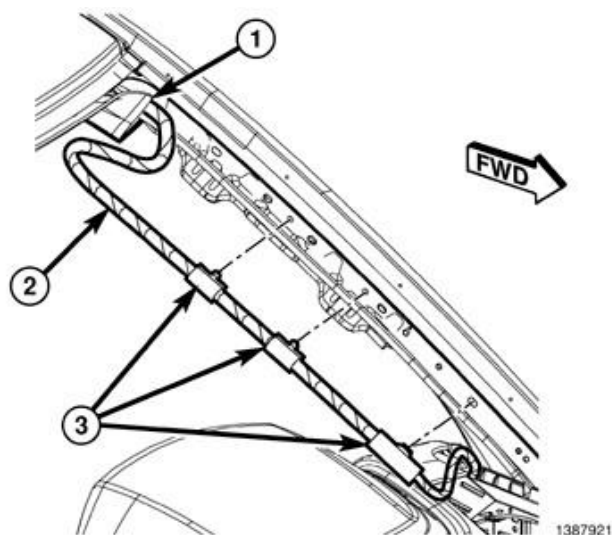

Figure 33 – Headliner Harness
21. As necessary, release the headliner wiring harness clips (3) from the A-pillar to allow enough wiring harness slack for lowering the headliner (Figure 33).
47. Reattach any headliner wiring harness clips (3) removed from the A-pillar to allow slack while lowering headliner (Figure 33).